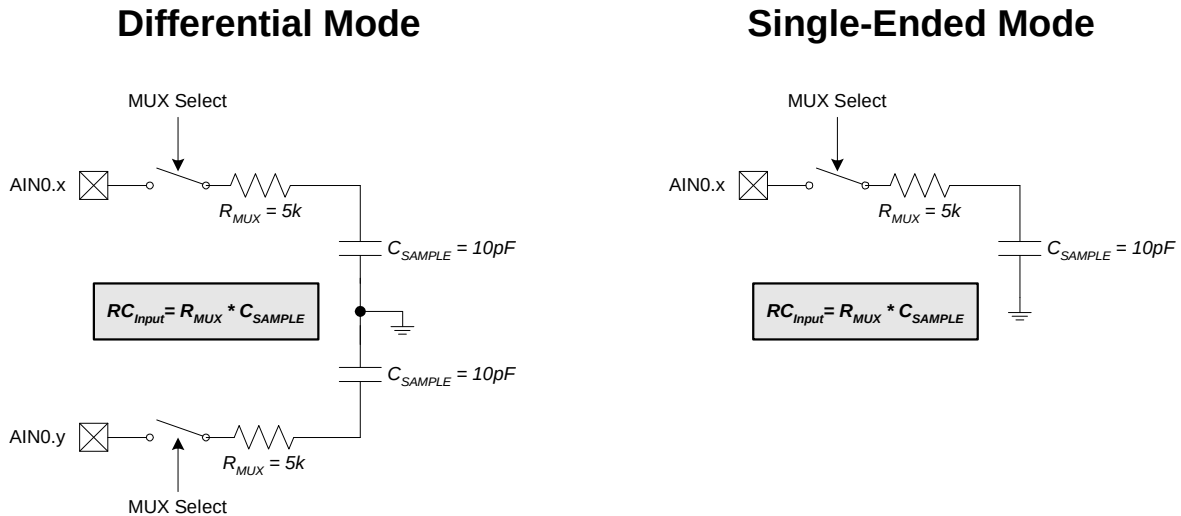

**Figure 5.4. ADC0 Equivalent Input Circuits**
A minimum tracking time is required before an accurate conversion can be performed. This tracking time is determined by the ADC0 MUX resistance, the ADC0 sampling capacitance, any external source resistance, and the accuracy required for the conversion. Figure 5.4 shows the equivalent ADC0 input circuits for both Differential and Single-ended modes. Notice that the equivalent time constant for both input circuits is the same. The required settling time for a given settling accuracy (SA) may be approximated by Equation 5.1. When measuring the Temperature Sensor output,  $R_{TOTAL}$  reduces to  $R_{MUX}$ . An absolute minimum settling time of 1.5  $\mu$ s is required after any MUX or PGA selection. Note that in low-power tracking mode, three SAR clocks are used for tracking at the start of every conversion. For most applications, these three SAR clocks will meet the tracking requirements.